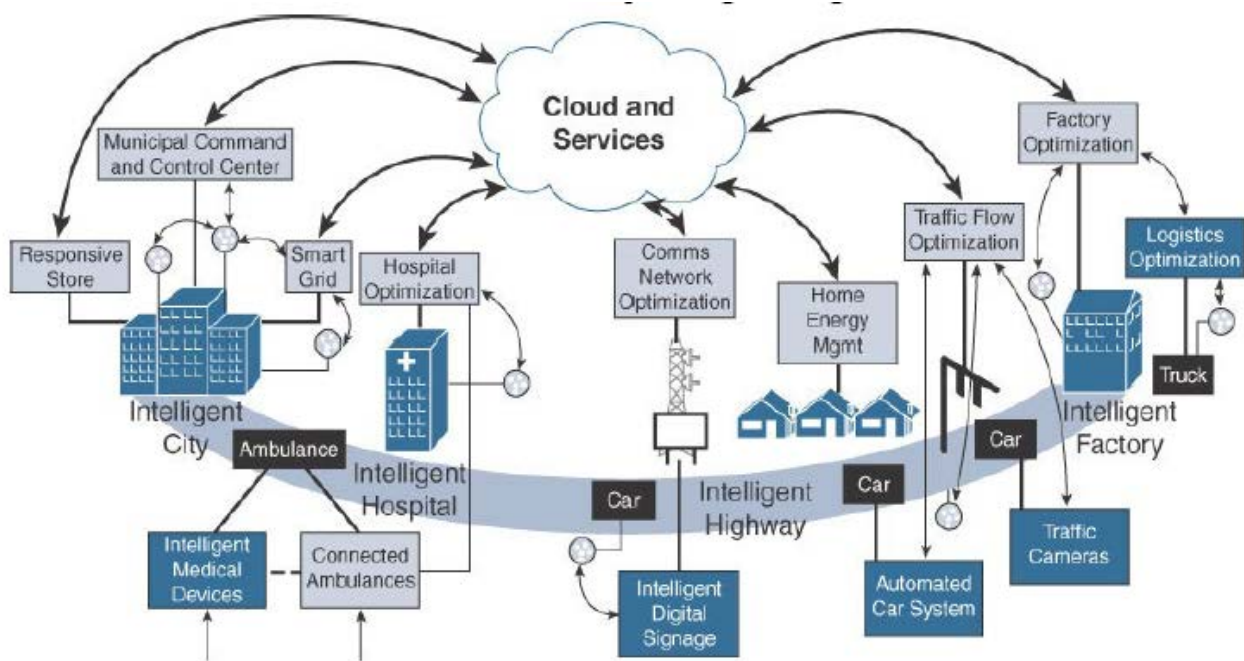

Figure 5.14 The Role of the Cloud for Smart City Applications
- Figure 5.14 shows the vision of utilizing the cloud in smart solutions for cities.
- With the cloud approach shown in Figure 5.14 , smart cities can also take advantage of operating expense–based consumption models to overcome any financial hurdles in adopting solutions to their most critical issues.